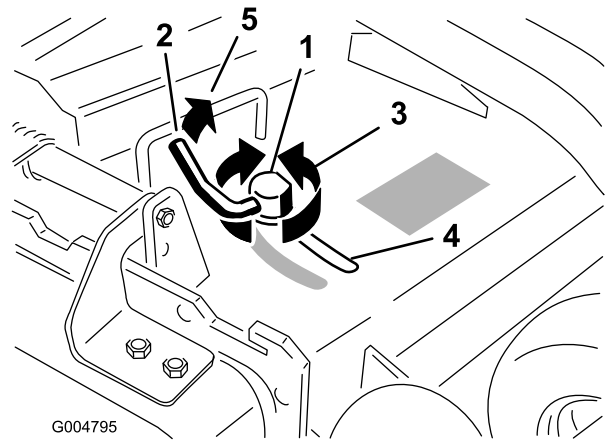

Figure 17
- To adjust the cam lock, swing the lever up to loosen the cam lock (Figure 17).
- Swing the lever back over to tighten the baffle and cam lock (Figure 17).